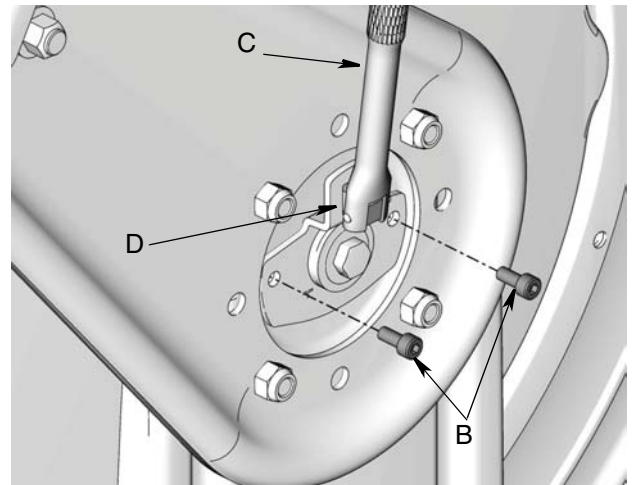

FIG. 25
3. Insert ratchet (C) in slot (D) first, then entirely remove screws (B) (FIG. 25).